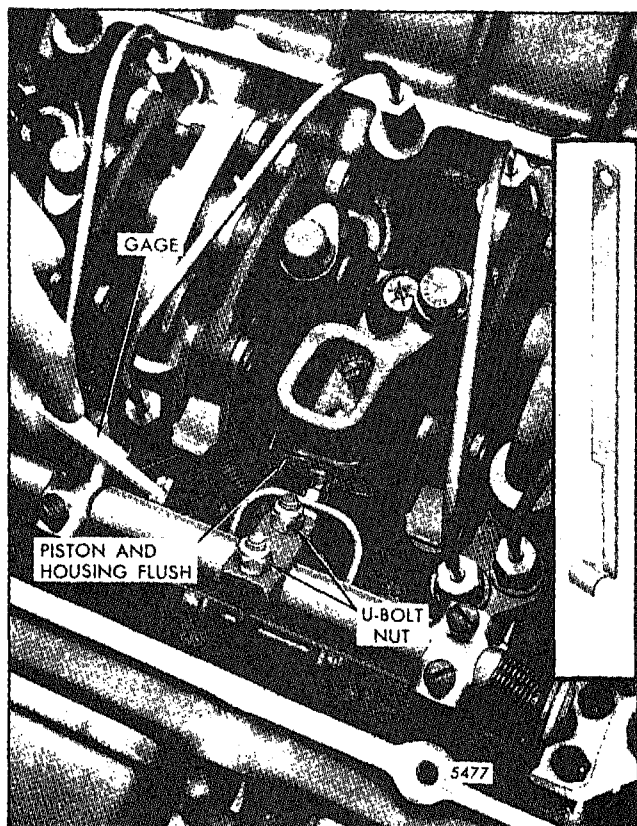

Fig. 5 - Adjusting Throttle Delay Cylinder
1. Refer to Fig. 5 and insert gage J 23190 (.454" setting) between the injector body and the shoulder on the injector rack. Then exert a light pressure on the injector control tube in the direction of full fuel.